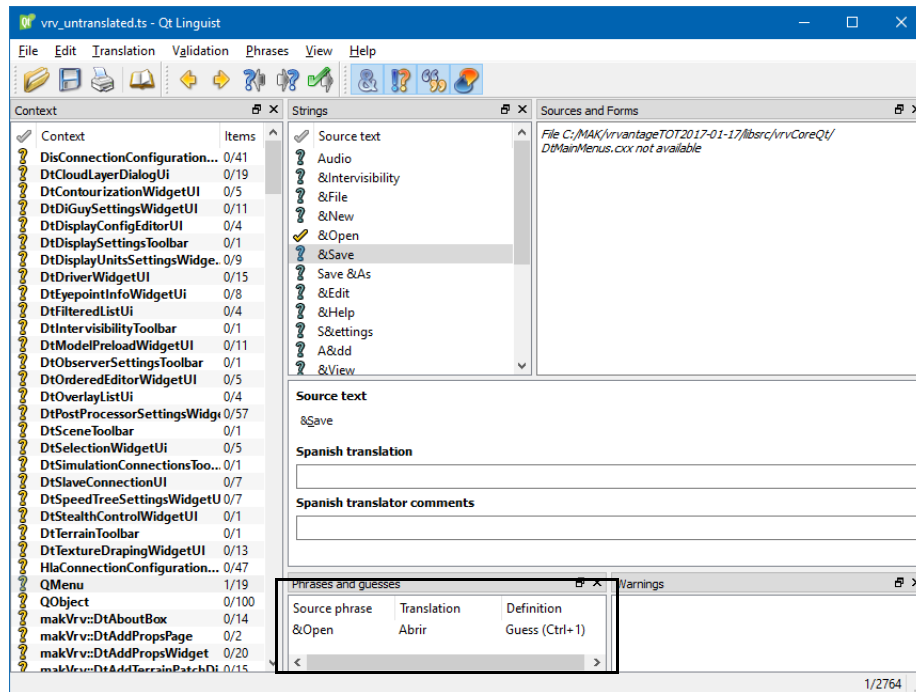

Figure 1-10. Completed translation for Open
9. When you are done and you are certain of the translation, select the Done and Next button on the toolbar. A green check mark replaces the question mark (Figure 1-10). If you move to a different text string without clicking Done and Next, a yellow question mark is displayed for the string you translated. When you translate all elements for a class, a green check mark replaces the question mark next to the class name.